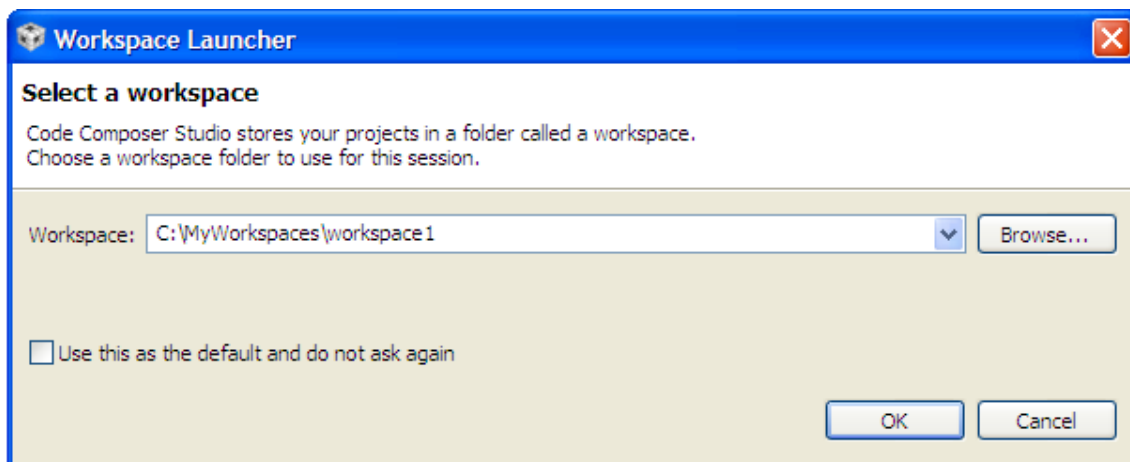

Figure 19 Opening a new workspace
4. Once Code Composer Studio opens, the workspace launcher may appear that would ask to select a workspace location, Figure 19: (please note workspace is a location on the hard drive where all the user settings for the IDE i.e. which projects are open, what configuration is selected etc. are saved, this can be anywhere on the disk, the location mentioned below is just for reference. Also note that if this is not your first-time running Code Composer this dialog may not appear)